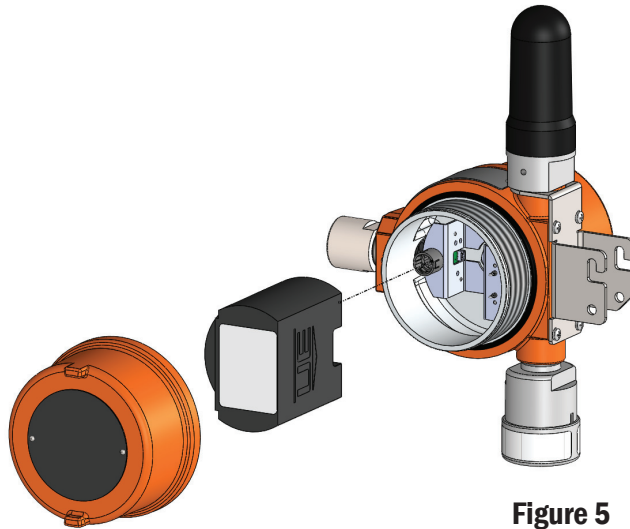

Figure 5
5. Slide the battery pack into the enclosure until it latches in place as shown in Figure 5.